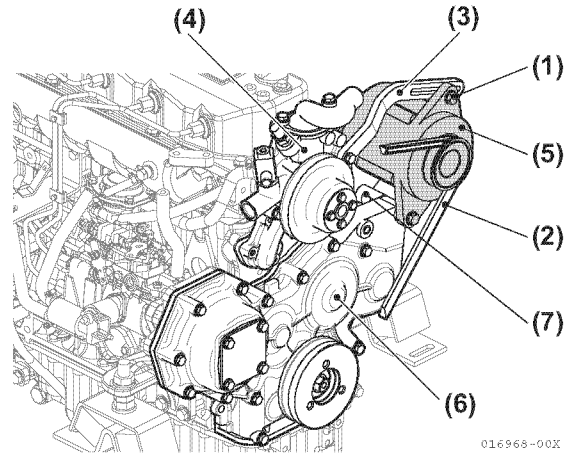

Figure 5-11
9. Removing the adjuster from the freshwater pump, and remove the alternator from the gear case (with spacer) (**Figure 5-11**).